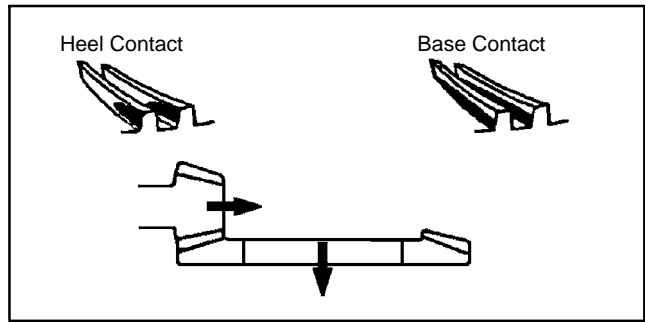

Figure 44
Study the different contact patterns (Figs. 44 and 45) and correct gear engagement as necessary.
1. If contact is toward the heel or base of the gear (Fig. 44):